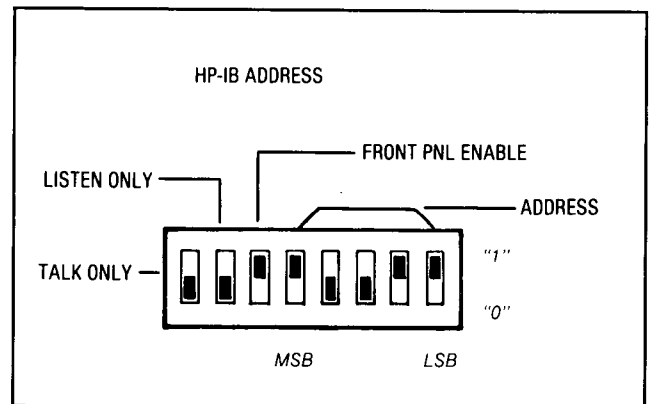

Figure 2-3. HP-IB Address Switch Shown as Set by the Factory
e. Set the switches to the desired HP-IB address (in binary) or the Talk Only or Listen Only setting. The switch is illustrated in Figure 2-3. If both the Talk Only and the Listen Only switches are set to "1", the Talk Only setting overrides the Listen Only setting. Setting the address switch to Talk Only or Listen Only selects a unique HP-IB address; Talk Only = 50, Listen Only = 40. Talk Only and Listen Only are used when the Signal Generator is in a master/slave configuration. See the Detailed Operating Instructions in Section 3 for more information.